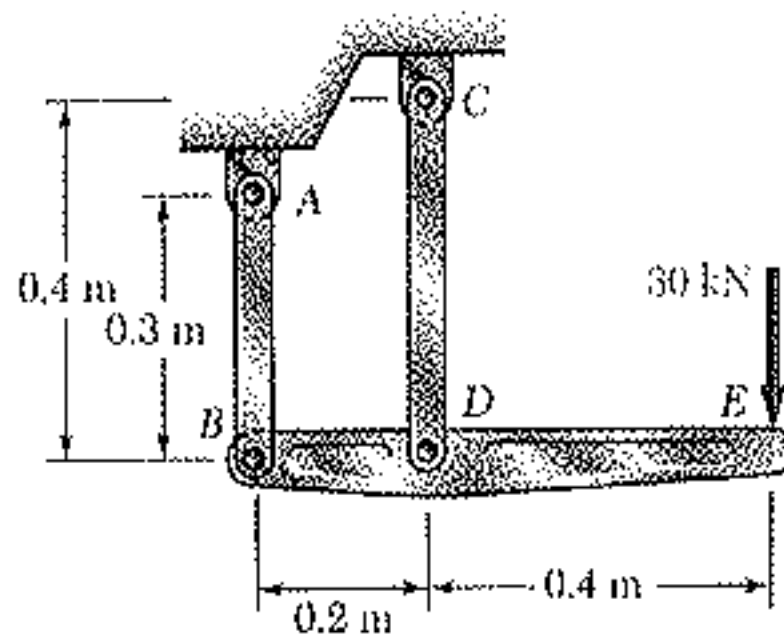

Figure 3
4. A rigid body bar BDE is supported by two links AB and CD shown in figure 3: Link AB is made of aluminum ($E = 70 \text{ Gpa}$) and has a cross sectional area of 500 mm^2 , link CD is made of steel ($E = 200 \text{ Gpa}$) and has a cross sectional area of 600 mm^2 . For 30 kN force shown find deflection/deformation at 1) of B 2) of D and 3) of E.